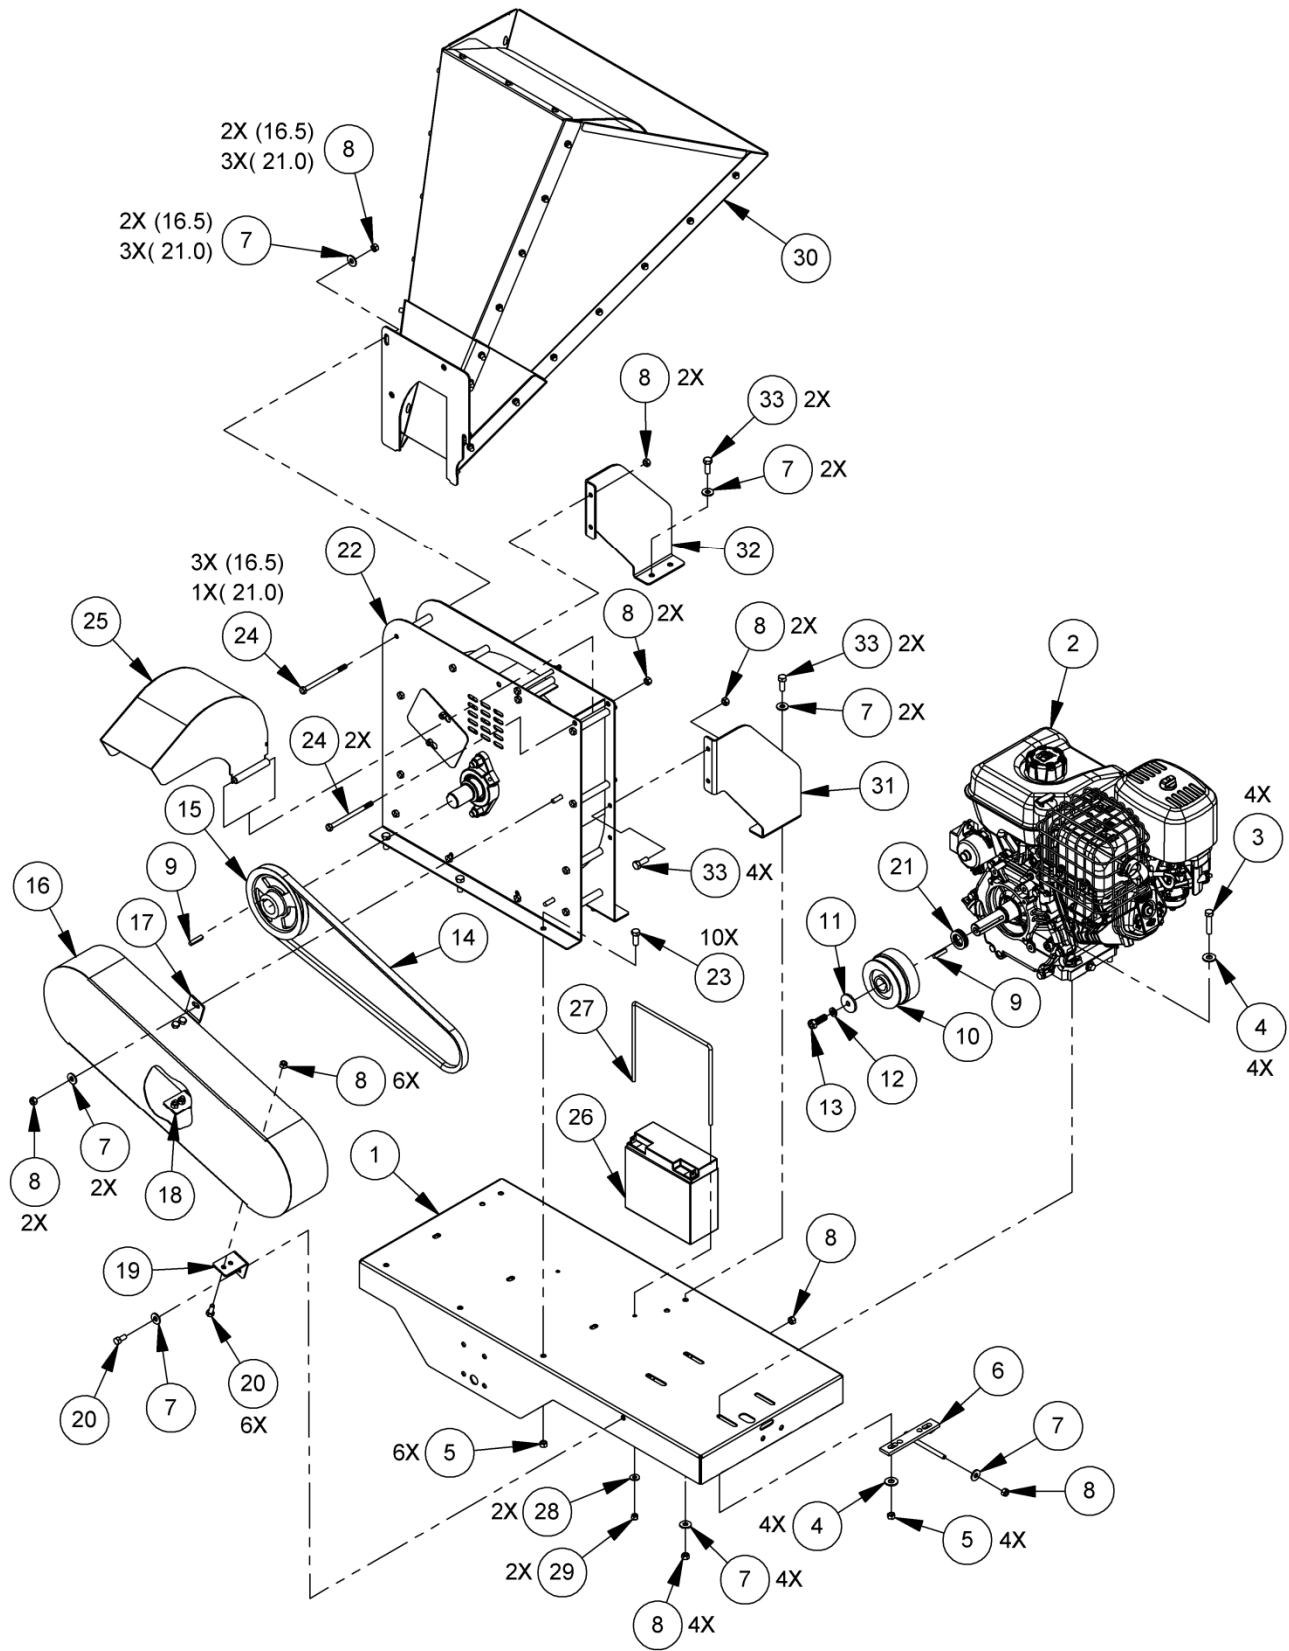

Figure 69
1. Pull the Hitch Clip and remove the Locking Pin (**Figure 69**).